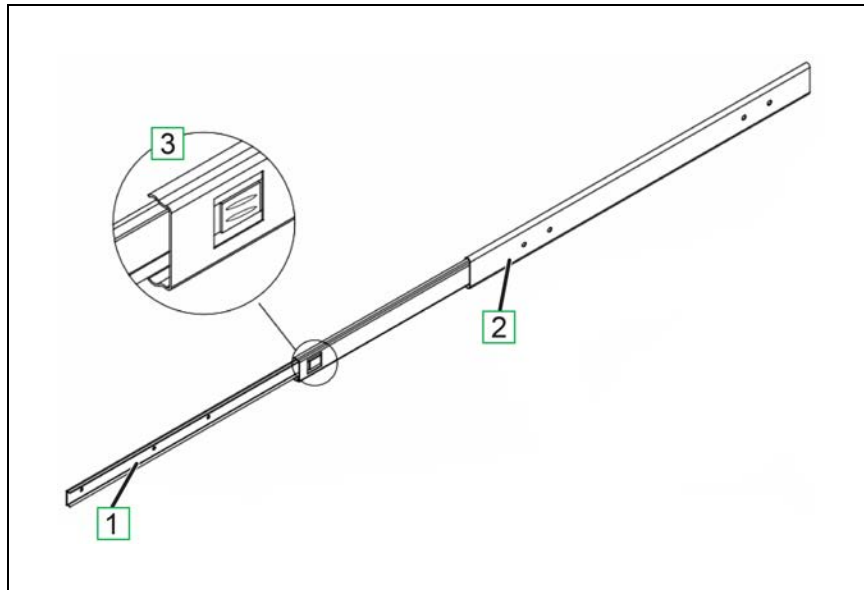

Figure 3-3. Remove the Rail From the Track (Right Assembly Shown).
4. Carefully and slowly pull the chassis out again to full extension, making sure that the rail stops at the lock (See [3] in Figure 3-3).